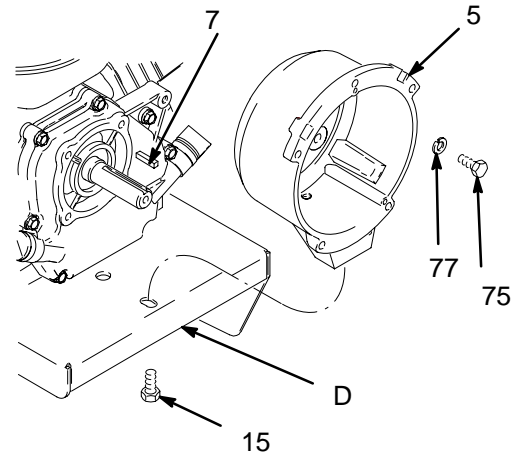

Fig. 12
1. Fig. 12. Remove four capscrews (75) and lockwashers (77) which hold clutch housing (5) to engine.
2. Remove screw (15) from under mounting plate (D).
3. Remove engine key (7).
4. Pull off clutch housing (5).
1. Fig. 12. Push on clutch housing (5).
2. Install four capscrews (75) and lockwashers (77) and secure clutch housing (5) to engine. Torque to 200 in-lb (22.6 N•m).
3. Install capscrew (15) from beneath mounting plate (D). Torque to 26 ft-lb (35.2 N•m).